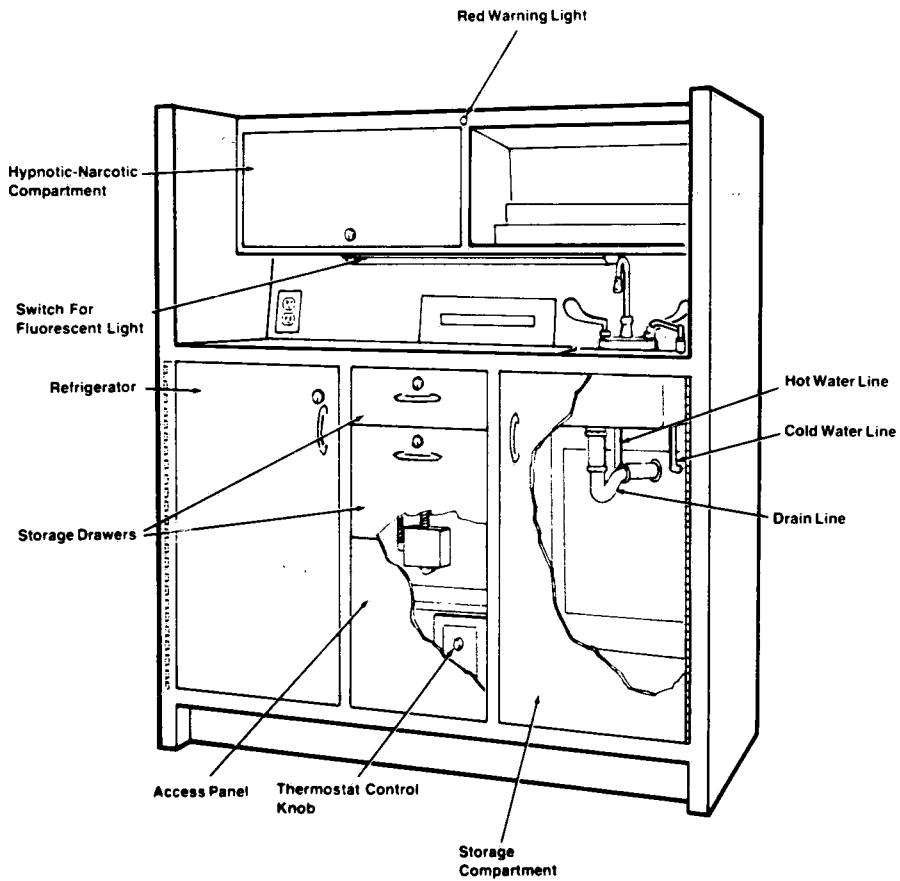

Figure 3-1. PREVENTIVE MAINTENANCE.
2. Operate the water faucet and soap dispenser and inspect the drain line (see Fig. 3-1). Be sure they do not leak or drip.
3. Operate fluorescent light (see Fig. 3-1). Be sure it is working properly.
4. Remove the snap-in access panel adjacent to the refrigerator (see Fig. 3-1). Turn the thermostat control knob to its normal operating position. Check for proper compressor operation. Be sure the refrigerator door gasket seals tightly against the door frame.
1. Remove snap-in access panel and drawer directly above access panel (see Fig. 3-1).